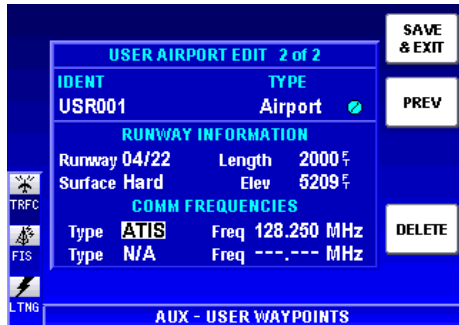

Figure 1-89
10. Turn the Rotary Knob to select the desired the frequency type as shown in Figure 1-89. See Table 1-3 for a list of possible **Type** entries.